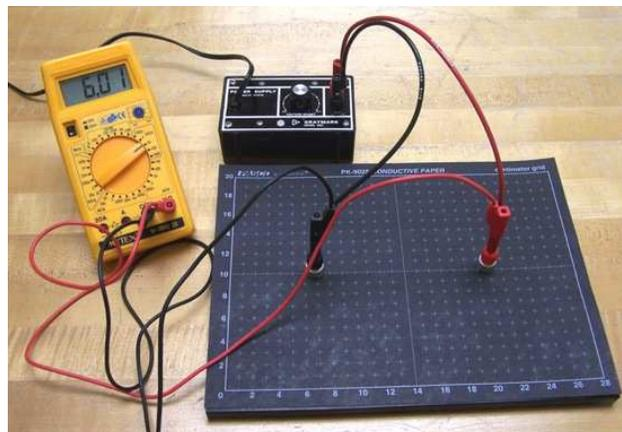

Figure 14.2: Point Charge Arrangement
3. Place the conductive/resistive paper on the circuit board. Poke two holes in the paper matching the holes in the circuit board as shown in Fig. 14.2.